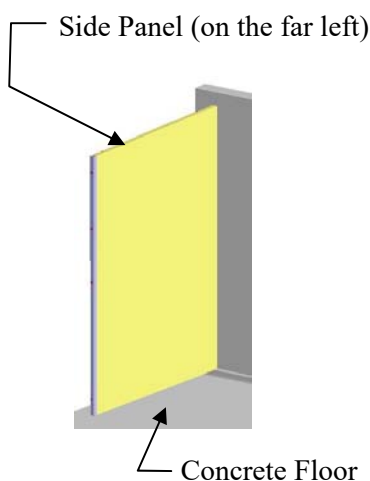

Figure 3
1. Set the first Side Panel (with King Post attached) on the left side of the concrete floor. Be sure the bottom of the panel slopes from the front to back of the Kennel. Have a helper hold it in place (**Figure 3**).